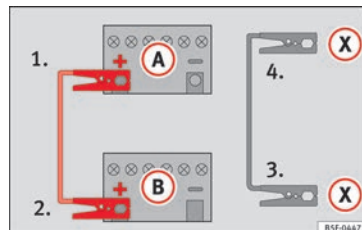

Fig. 60 Diagram of connections for vehicles with Start Stop system
- 4b. *For vehicles with Start-Stop system:* connect one end of the *black* jump lead (X) to a suitable ground terminal, to a solid piece of metal in the engine block, or to the engine block itself »» Fig. 60.
5. Connect the other end of the *black* jump lead (X) to a solid metal component bolted to the engine block or to the engine block itself of the vehicle with the flat battery. Do not connect it to a point near the battery (A).